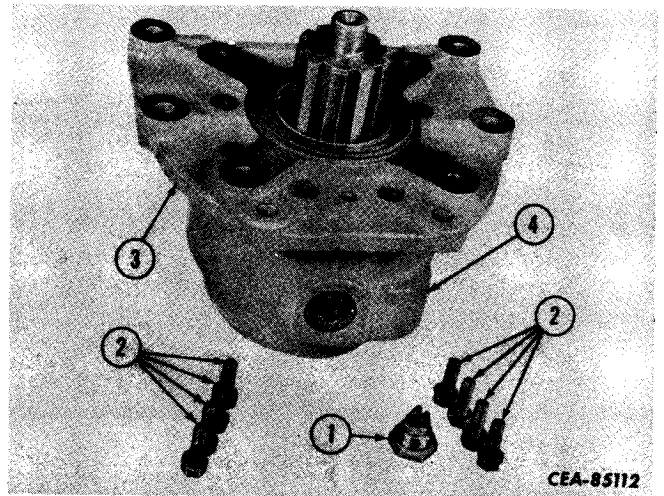

Figure 5-35
Install the cover (3, Fig. 5-35) on the housing and secure with the cap screws (2). Torque the cap screws. Refer to "SPECIAL TORQUES" in this section.